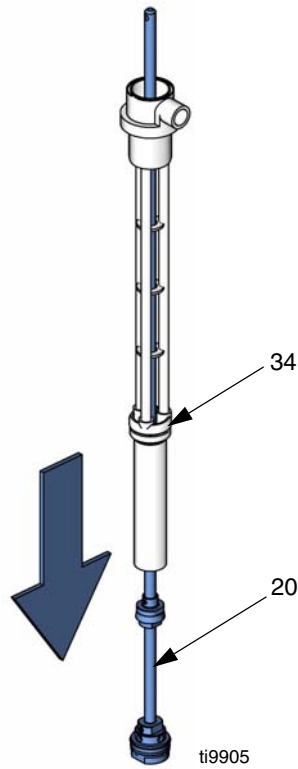

FIG. 18
3. Pull transfer shaft (20) out the bottom of pump body (34). See FIG. 18.